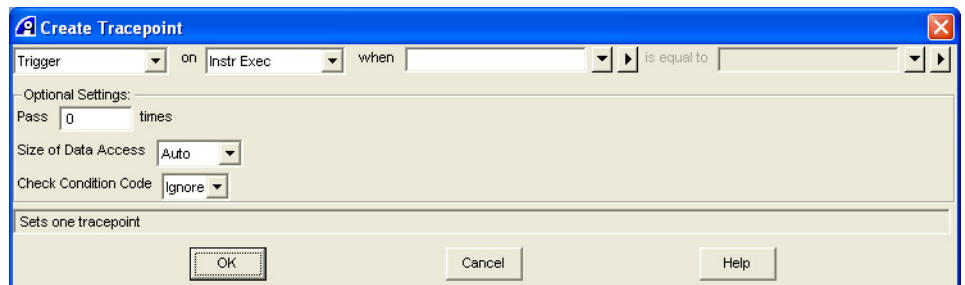

Figure 10-83 Create Tracepoint dialog box
- a. Select **Debug** → **Tracepoints** → **Create Tracepoint...** from the Code window main menu to display the Create Tracepoint dialog box. Figure 10-83 shows an example: